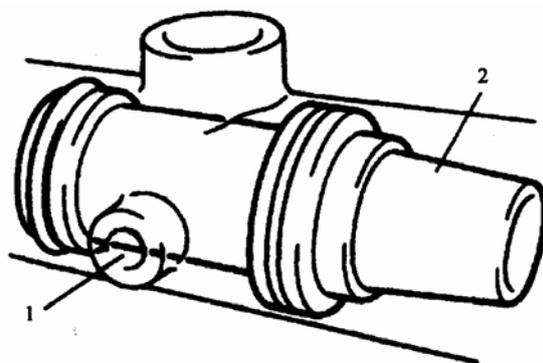

FIG.16-61 1. Stopper bolt 2. Sealing
(1) Install secondary piston assembly into cylinder according to right direction. Install stopper bolt, and tighten to specified torque shown in FIG.16-61,16-62.